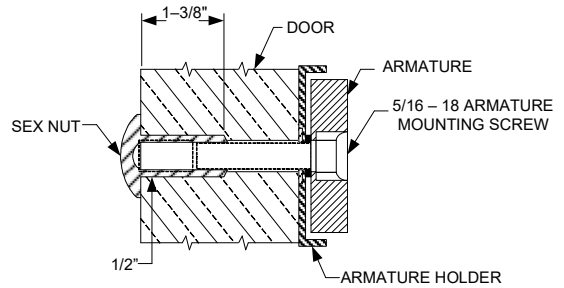

Figure 1A – SOLID DOOR
STEP 3. Drill and tap the four mounting holes as indicated on the paper template. **(NOTE: REFER TO FIGURES 1A, 1B, OR 1C ON PAGE 3 WITH REGARD TO SELECTING THE PROPER HOLE SIZE FOR ARMATURE MOUNTING BOLT.)**
STEP 1. Mount armature to door. (See figures 1A, 1B & 1C.) Verify that the armature trigger magnet is towards the conduit side of the lock.